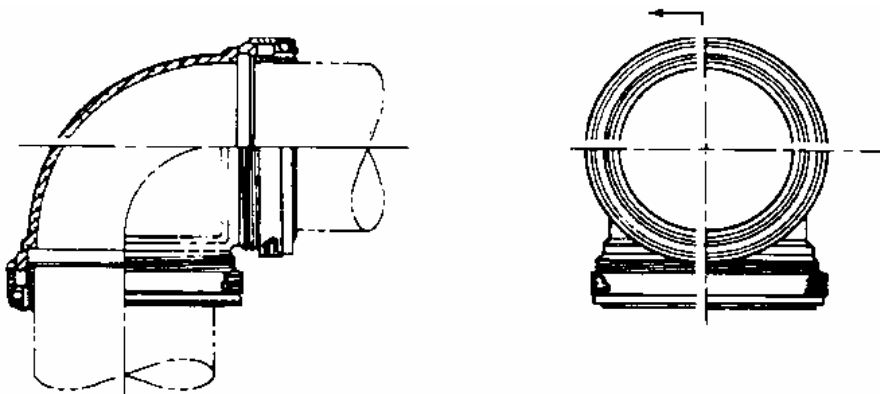

Figure 3. Shape Fitting, Type 7351 (Size)
7. **Shape Fittings.** Shape fittings (Figure 3) are tees, crosses, elbows, and wyes. Shape fittings have many of the same components, used in the full or half couplings, and work the same way as the full or half couplings. Shape fittings will incorporate one or more parts conforming to WS61 or WS62.